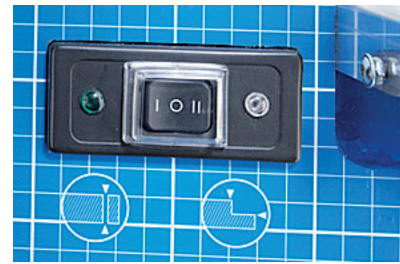

Fig..8
- Confirm that the rocker switch of the ProCut foam board cutter (No.11) is in position 2 (corner cutting operation (Fig.8).